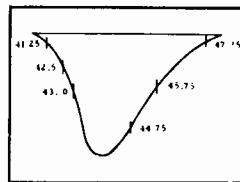

FIG. 5
- (4) Set Horizontal Hold Control at maximum clockwise rotation.
- (5) Adjust the horizontal frequency screw of L16 until picture falls into sync. Turning the screw clockwise lowers the frequency (bars sloping downward to left) and turning the screw counterclockwise increases frequency (bars sloping downward to right).
- (6) Connect vertical input lead of oscilloscope with a 5 uuf isolating condenser in series to terminal C of the horizontal oscillator transformer and ground oscilloscope to chassis. Set frequency of scope to approximately 5 kc.
- (7) Remove short from terminals of the horizontal phasing coil (L17) and adjust screw of L17 until wave shape appearing on scope is like that shown in Figure 5.
- (8) Some further adjustment of L16 Horizontal Frequency may be necessary to keep picture in sync after adjusting L17 for proper wave shape.
- (9) Remove scope from terminal C and retouch L16, if necessary. (Refer to step 10.)
- (10) Turn the Horizontal Hold Control through its entire range. Evidence of sync fall out or a tendency to fall out should be noted at both ends. If this condition cannot be achieved, retouch L16.